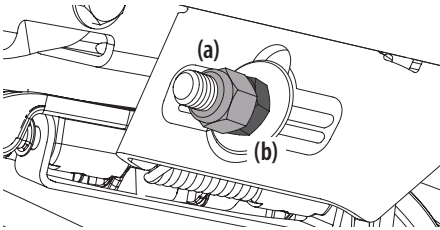

Figure 31
- To **raise** the front of the deck, remove the end cap, loosen the outer jam nut (a) then tighten (thread inward) the inner nut (b) against the front hanger bracket. See Figure 31. When proper adjustment is achieved, re-tighten the outer jam nut (a) and replace the end cap.
- To **lower** the front of the deck, remove the end cap, loosen the outer jam nut (a) then loosen (thread outward) the inner nut (b), away from the front hanger bracket. See Figure 31. When proper adjustment is achieved, re-tighten the outer jam nut (a) to 57 ft-lbs (77 N-m) and replace the end cap.